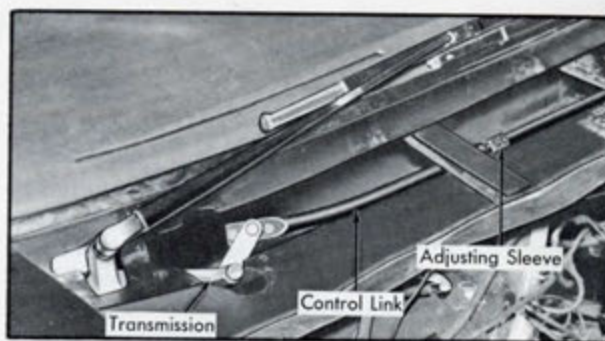

Fig. 1 Windshield Wiper Control Arm Adjustment
b. Loosen the two Allen set screws in the adjusting sleeve on the transmission control arm, Fig. 1. Lengthening control arm shifts wiper pattern inboard. Adjust control arm accordingly, retighten set screws, and check wiper pattern on wet glass at fast wiper speed. It may be necessary to perform this adjustment several times until proper wiper pattern is obtained. Recheck "park" position of left blade, making certain that it rests with slight tension against the windshield reveal molding. If necessary, reset wiper arm on splined end of transmission shaft and recheck wiper pattern.